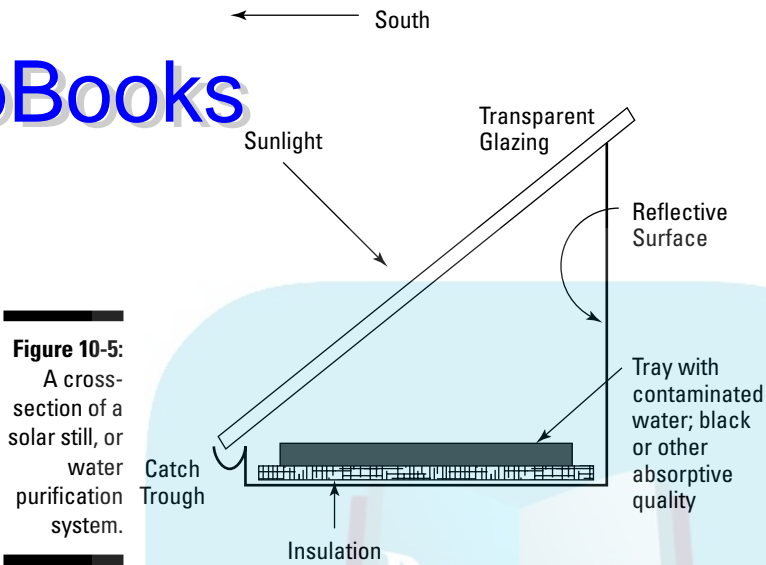

Figure 10-5:
Here's a great bite-sized solar project for the do-it-yourselfer. Not only can you build a solar water-purification system such as the one in Figure 10-5, but you can also design it. Designing is just as much fun as building, and it's more rewarding because the system's entirely yours (unless it doesn't work, of course — then you need to figure out how to blame somebody else).
- ✓ A wooden (or even better, sheet metal) enclosure as shown in Figure 10-5; if you want to get imaginative, find a good metal box and cut a hole for the glaze cover